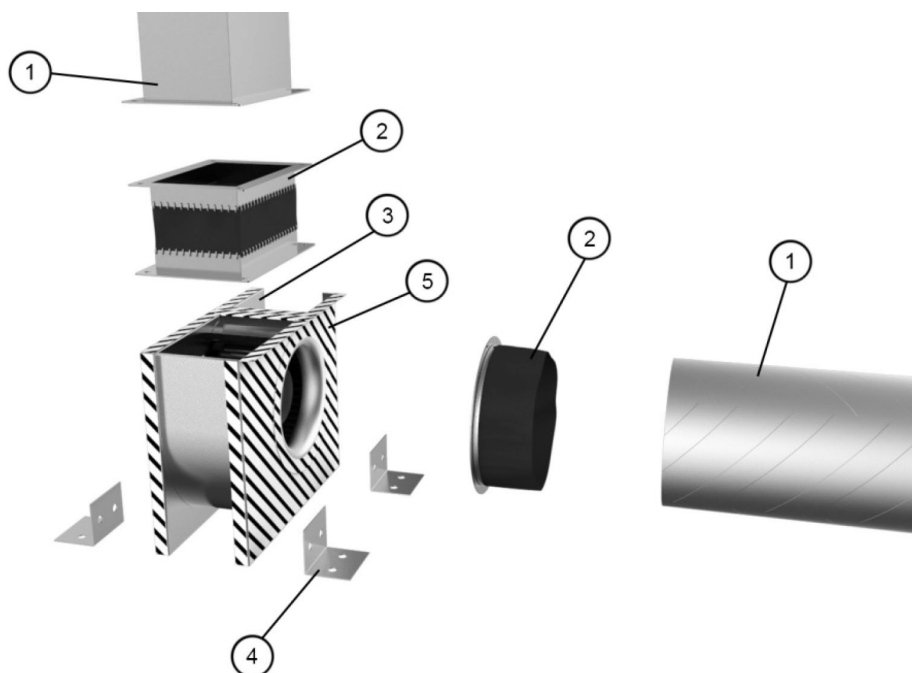
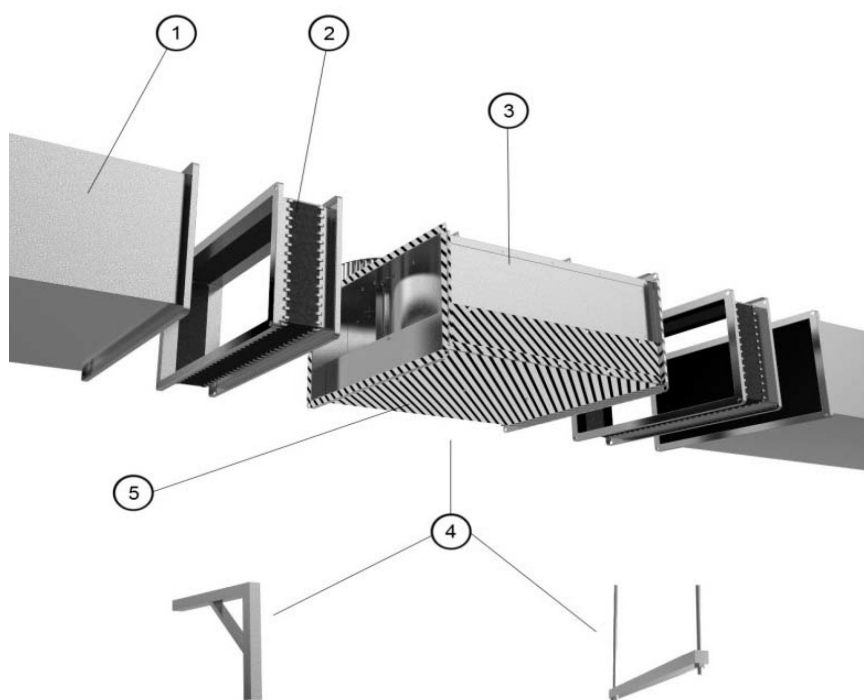

Fig. 1 DKEX
Fig. 2 KTEX
Installation examples (figure 1 , figure 2) only function as a guideline for installation where dimensioning of suspension devices must be carried out by the installer and adapted to the prevailing conditions. Fans (3) can be installed using brackets or suspended mountings (4). If any form of suspension device or bracket is installed on the fans the distance to moving parts must not be less than 25 mm. Screw or rivet joints must be adapted for the purpose and cleaning of the fan must be carried out after completed installation. The dashed areas (5) are suitable for installation of ducts and any suspension devices. Ducts (1) should be connected to fans using collars (2).